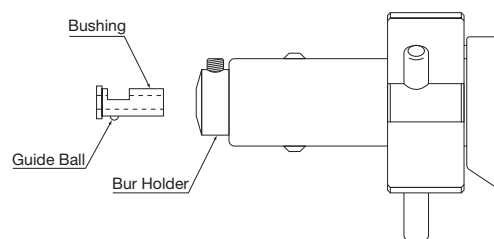

Fig.3
- ② To mount a larger tool ($\phi 3.2$ mm through $\phi 6.4$ mm), loosen the setscrew, remove the bushing, insert the tool and tighten the setscrew. (To re-install the bushing, align the guide ball on the bushing with the slot in the bur holder.) (**Fig.3**)